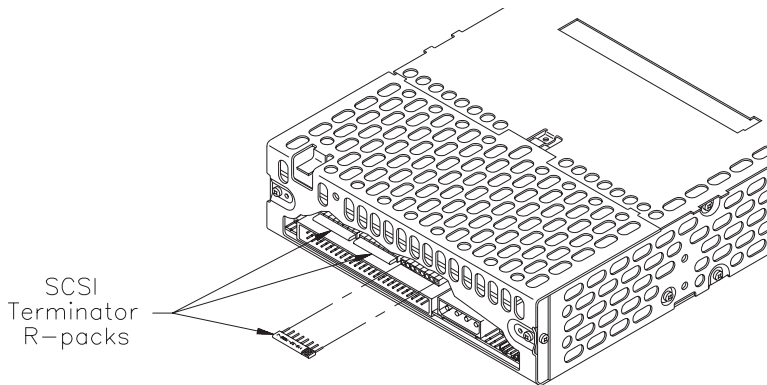

Figure 3 Location of R-packs on the back of the tape drive (single-ended configuration)
1. Locate the three R-packs on the back of the tape drive, as shown in Figure 3.
If you need to put the R-packs back in the tape drive, make sure that pin 1 of each R-pack is aligned with pin 1 of the socket and that no pins are bent. As shown in Figure 3, the writing on the R-pack should face upward. Pin 1 of the R-pack is marked with a colored line or dot and should line up with the right side of the socket.